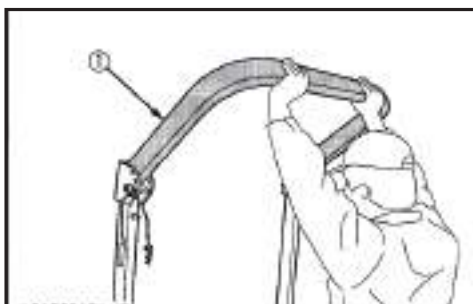

Figure 1B. (1) Set bolt (2) Linch Pin
- Make sure that both set bolts are properly installed and secured with the Linch Pins (Figure 1B.)